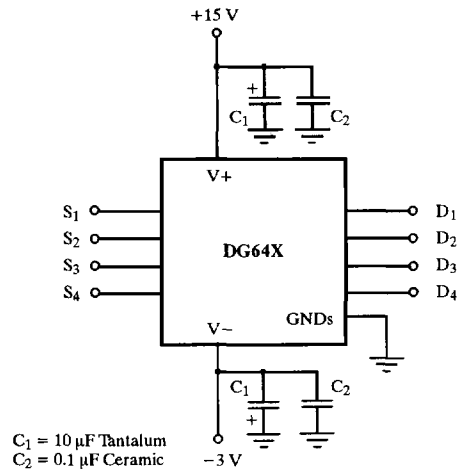

Figure 7. Supply Decoupling
1. Decoupling capacitors should be incorporated on all power supply pins (V+, V-). (See Figure 7).